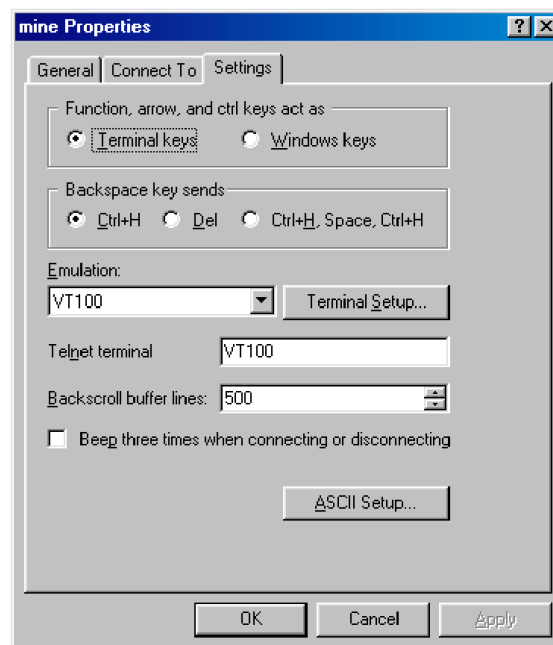

Figure 19. Terminal keys configuration
- Configure the Settings for *Function, arrow and ctrl keys act as* to *Terminal keys* as shown in figure 19.